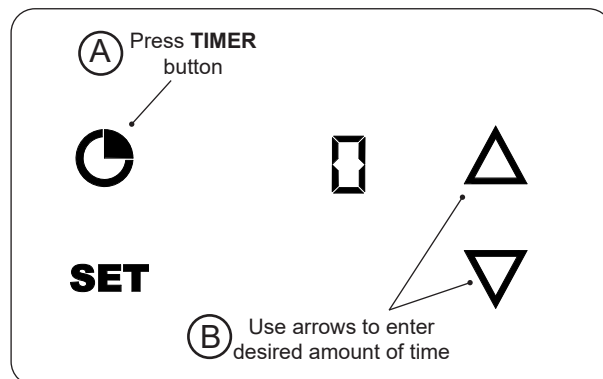

Fig. 32-1 Set timer
1. With the thermometer/thermostat **on**, press the **TIMER** button once (Fig. 32-1, A). A zero will display indicating that no timer is set.
2. Press the **UP** or **DOWN** arrows to enter the desired amount of time (Fig. 32-1, B).